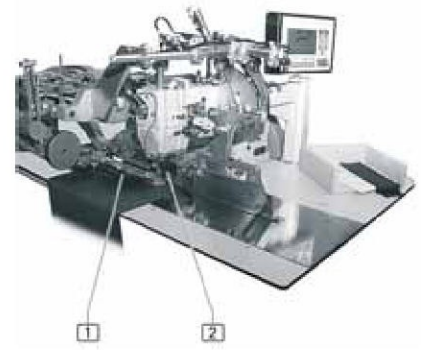

Fig. 17
6. **fig. 17:** Press the foot switch (machine control); the clamp **1** moves the workpieces to the sewing unit **2**, where the pocket opening is cut with the centre knife and the corners with the corner knives. The pocket opening is sewn. As soon as the clamp has taken over the transportation to the sewing unit, the next workpiece can be positioned (overlapping work method)